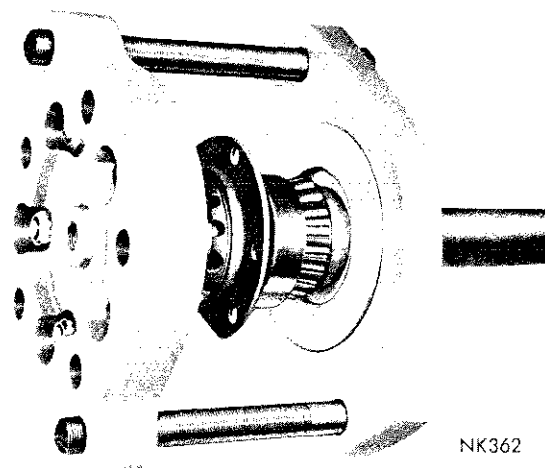

Fig. 13—Installing New Bearing and Collar
(1) Install the retainer plate on the axle shaft.
(2) Install a new bearing cone, cup and collar using Tool C-3971 (Fig. 13).
(3) Tighten the long bolts alternately until the bearing and collar are installed.